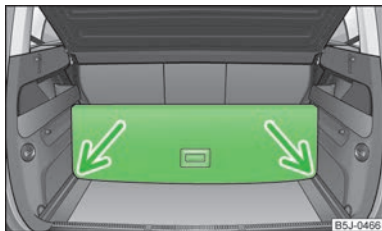

Fig. 49
- › Lift up the part with the holder and secure it by sliding it into the grooves marked with the arrows » Fig. 49.